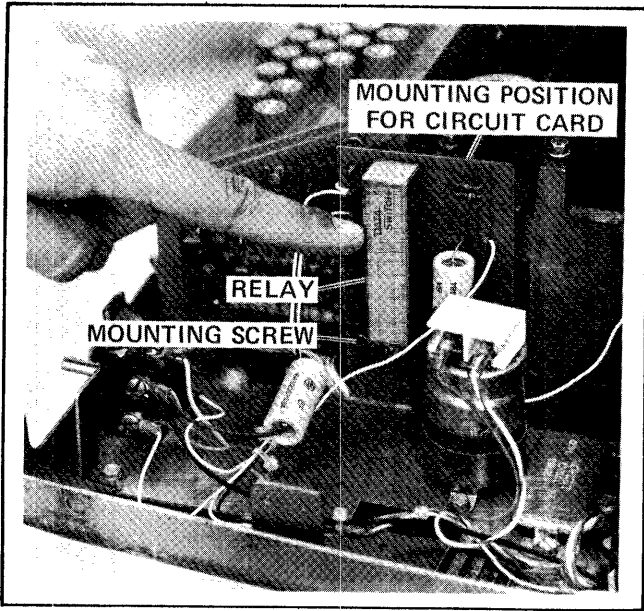
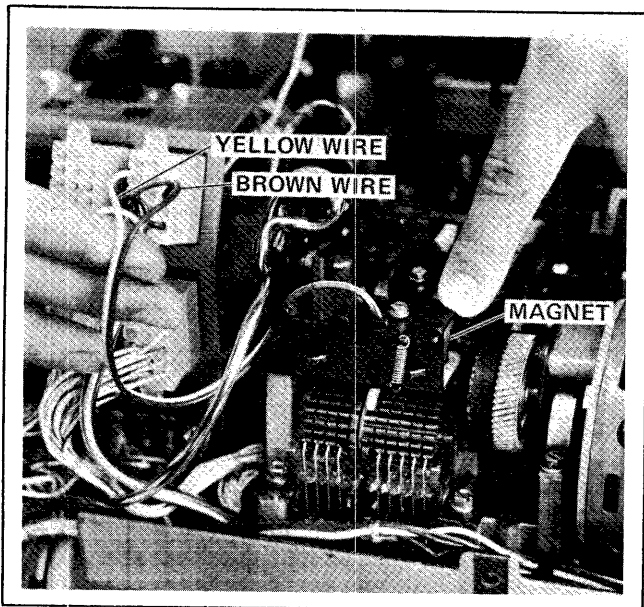
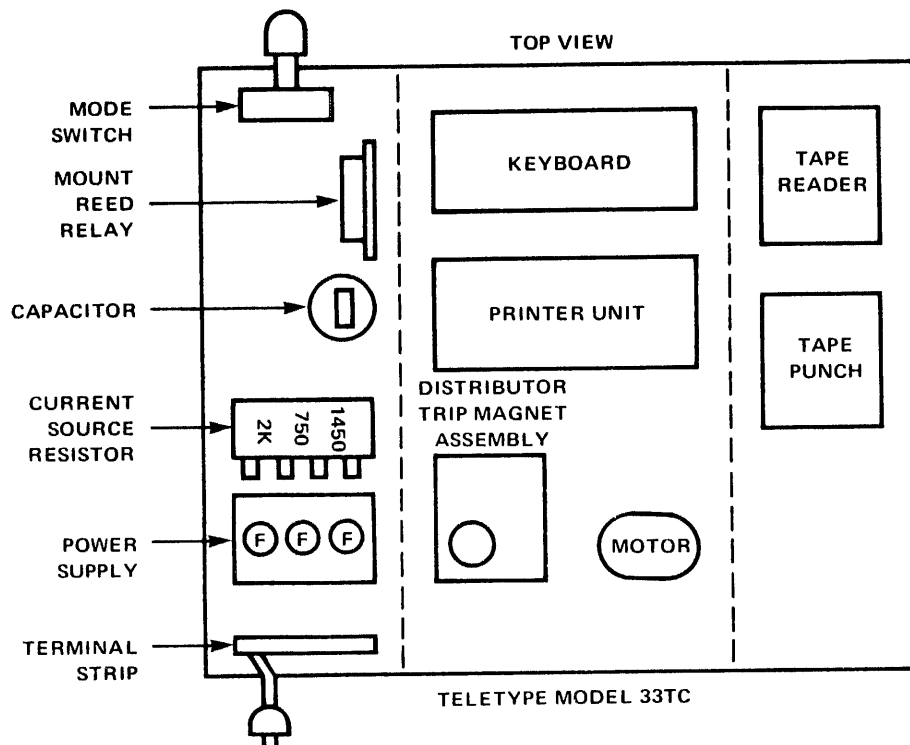
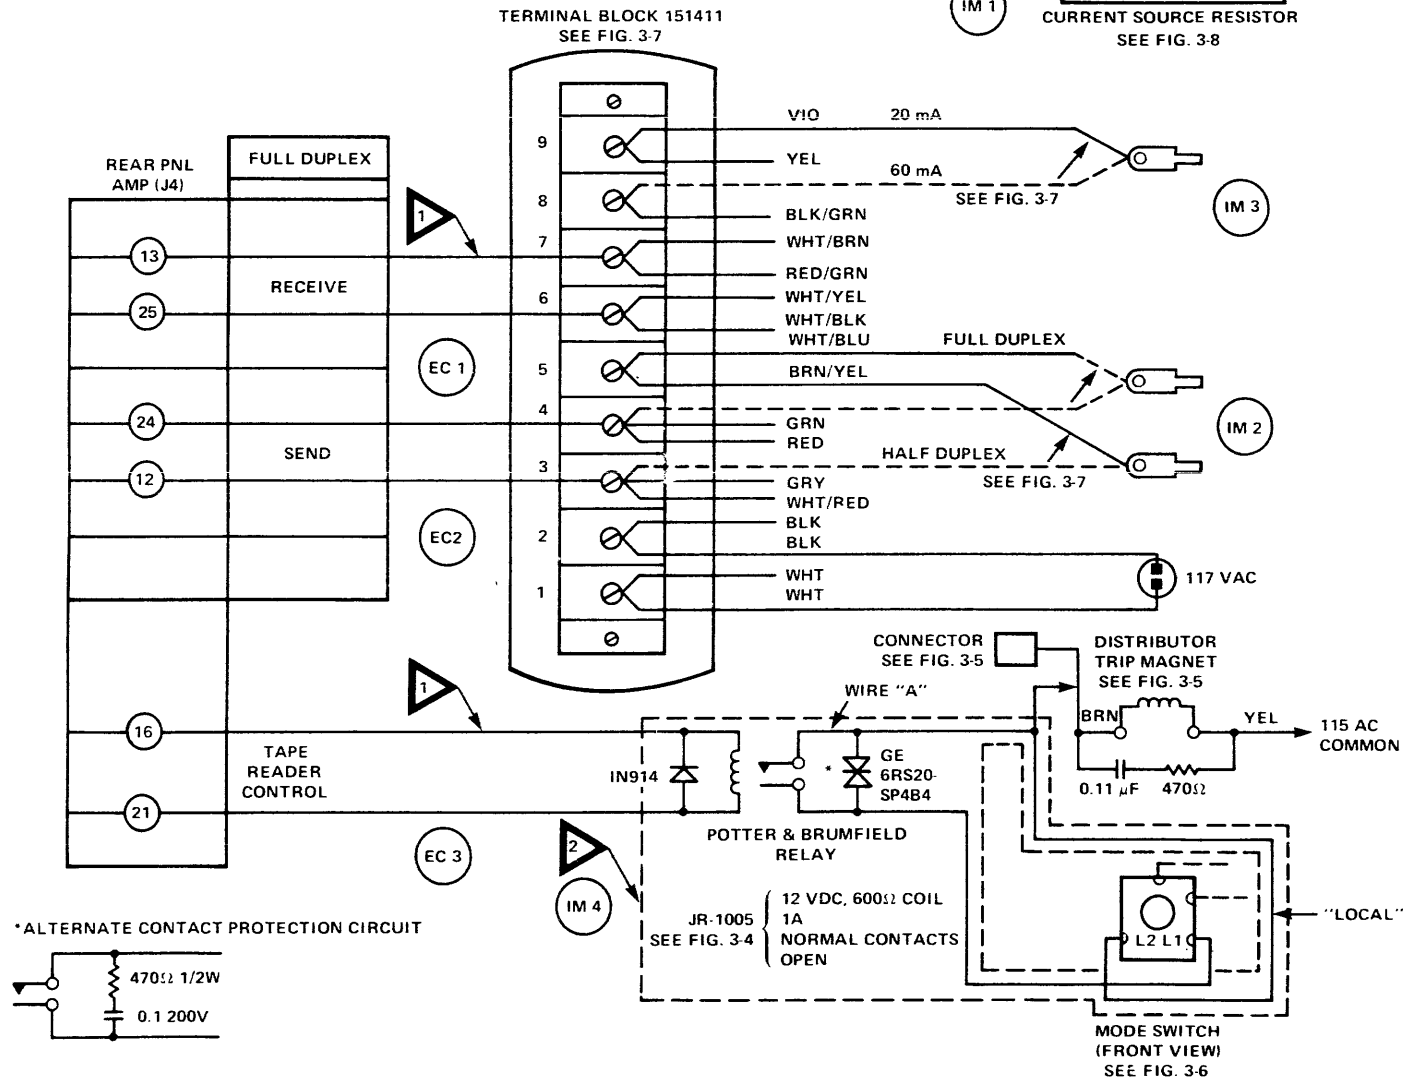

Figure 5-3. Relay Circuit (Alternate)
Figure 5-4. Distributor Trip Magnet
Figure 5-8. Teletype Layout
Figure 5-9. Teletype Modification
(4) A relay circuit must be introduced into the paper tape reader drive circuit. The circuit consists of a relay, resistor, a diode, a thyrector and a suitable mounting fixture. This change requires the assembly of a small "vector" board with the relay circuit on it. It may be mounted in the Teletype by using two tapped holes in the base plate (see Figure 5-3). The relay circuit may then be added without alteration of the existing circuit (see Figures 5-4, 5-5 and 5-6). That is, wire "A" (Figure 5-9), to be connected to the brown wire in Figure 5-4 may be spliced into the brown wire near its connector plug. The "line" and "local" wires must then be connected to the mode switch (see Figures 5-8 and 5-9).
(1) A two-wire receive loop must be created. This is accomplished by the connection of two wires between the Teletype and the BOARD in accordance with Figure 5-9.
(2) A two-wire send loop similar to the receive loop must be created. (See Figure 5-9.)
(3) A two-wire tape reader loop connecting the reader control relay to the BOARD must be created. (See Figure 5-9.)